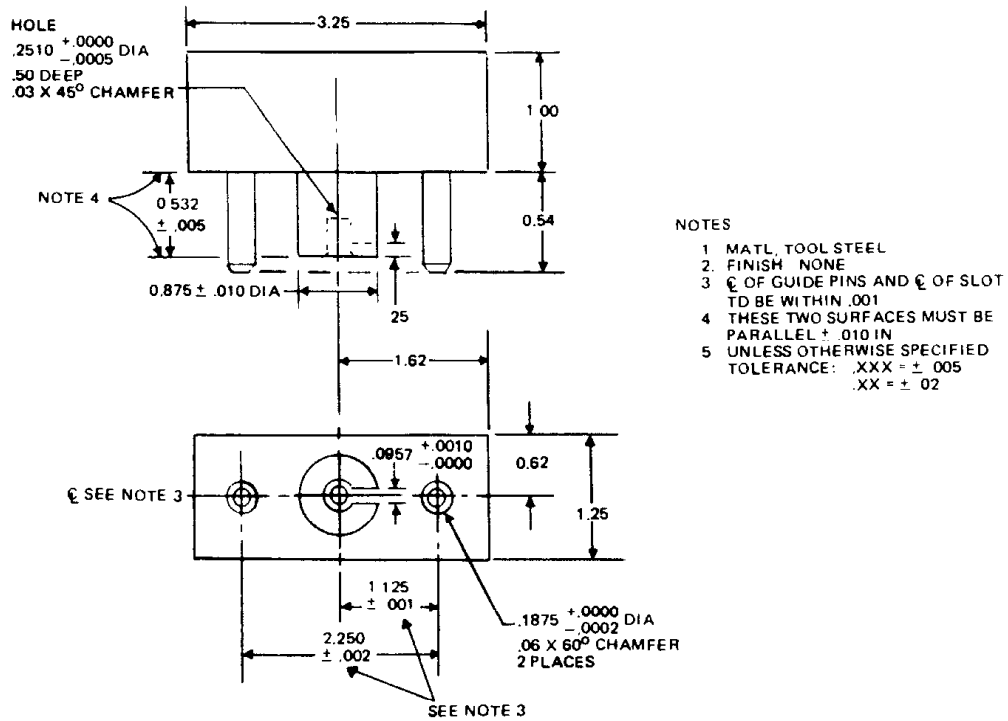

Figure 5-3. Fixture To Locate Couplings On Transformer Assemblies
- b. Place the indexing jig (figure 5-3 on the assembly, and rotate the coupling so its pin drops into the slot in the jig.
fitted in proper relationship to references holes. Figures 5-3 and 5-4 list dimensions and construction details.